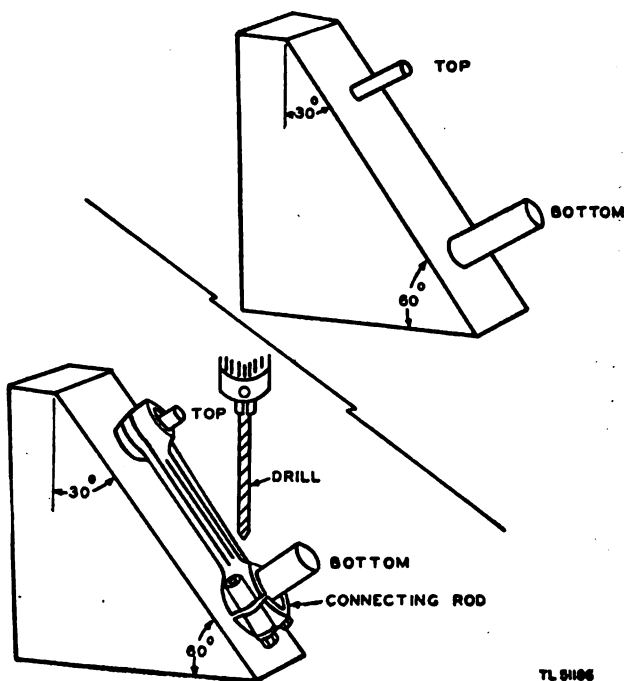

Figure 72. Jig for drilling oil holes in Briggs and Stratton connecting rod.
1. Make a jig of cold rolled steel according to figure 72. A connecting rod should be used as a guide in laying out this jig.